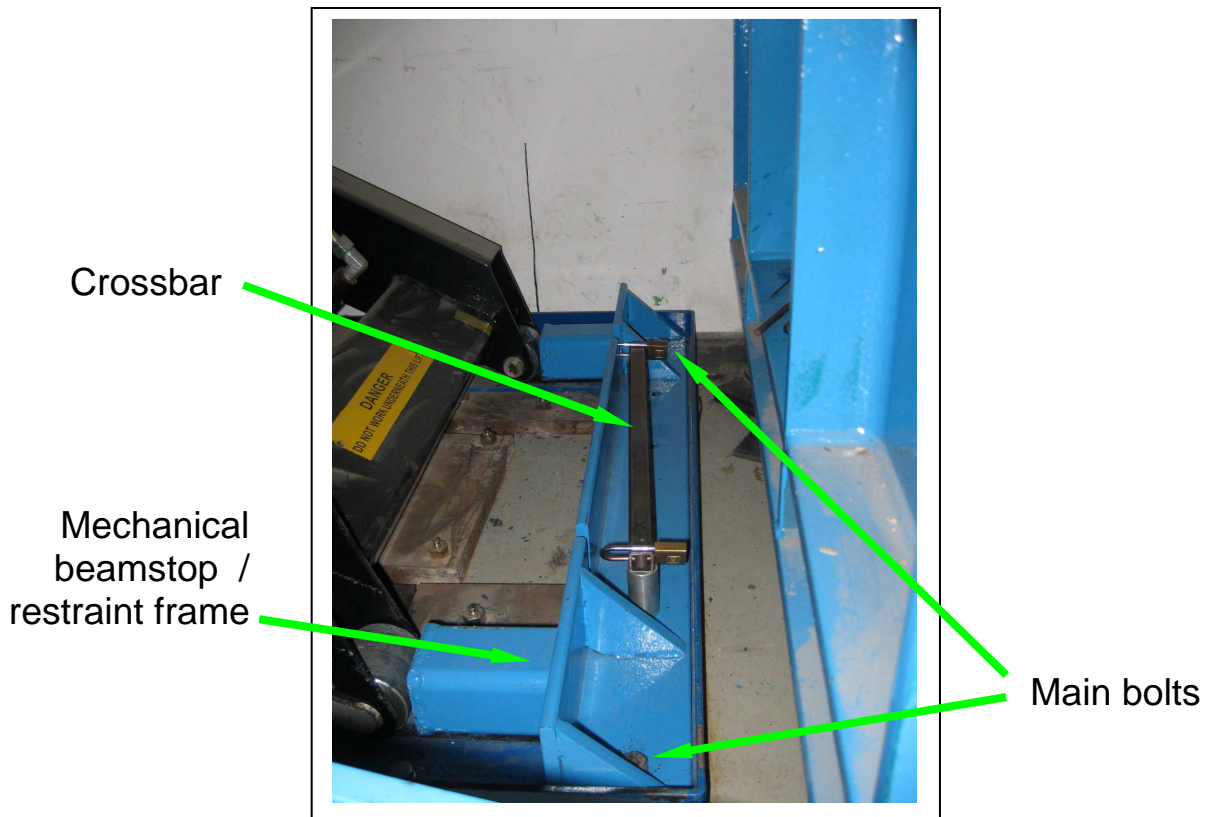
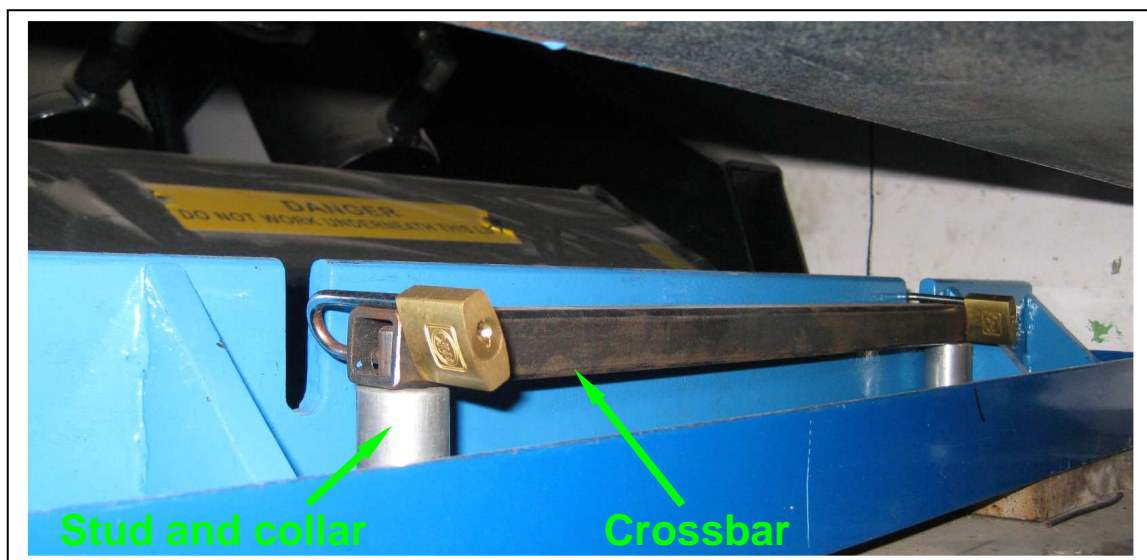

Figure 4: Mechanical beamstop frame and layout.
Figure 5: Mechanical beamstop crossbar.
The “mechanical beamstop” is a metal frame that prevents motion of the scissor table. It is secured to the base of the table assembly by the main pair of M10 (17 mm) bolts (fig. 4). A second pair of studs carries a crossbar that is held in place by a pair of padlocks to prevent unauthorised removal of the restraint (fig. 5).
- Tighten the main bolts with the spanner, and then do up the studs leaving the top hole aligned perpendicular to the MICE beam (see fig. 5).